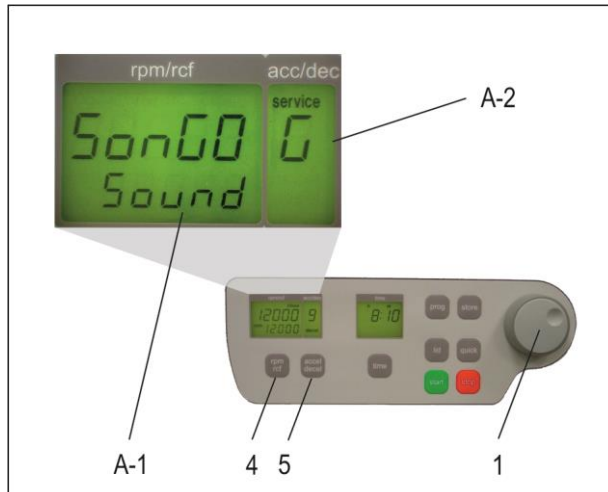

Figure 6
Proceed as illustrated, under point 1.8.1, to enter this program mode, press the key, "accel/decel" (5). In the display, "accel/decel" (A-2) flashes the word, "service". Select the letter, "G" with the adjustable knob (1). As a result, appearing in the display, "rpm/rcf" (A-1), the word "SonGo/Sound". After pressing the key, "rpm/rcf" (4), select a song with the adjusting knob (1), (see Figure 6).